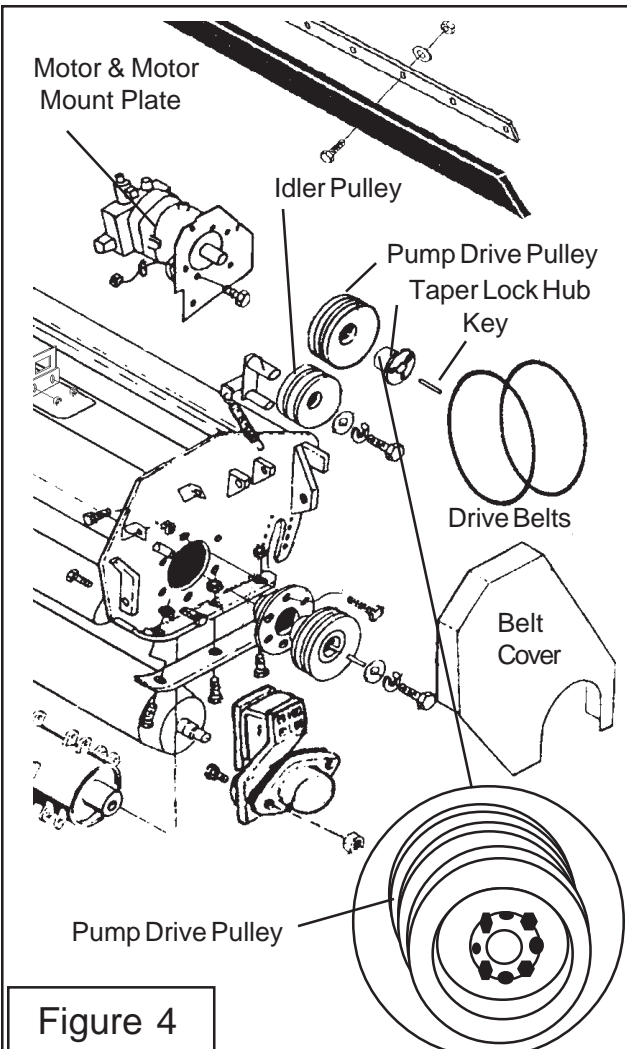

Figure 4
5. Remove Motor Drive Pulley on Wing Mower. The drive pulley is retained with a taper lock pulley. Remove the bolts and start them in the other holes in the hub. This will force the pulley inward off the tapered hub. Hub should pull off the pump shaft. (See Figure 4)
9. Reinstall Motor Mount Plate. The motor mount plate bolts to the motor flange. Motor mount plate bolts to deck of mower. The mount plate will not require any adjustment as it bolts to deck in predetermined holes. (See Figure 4)
11. Install Drive Belts. Drive belts should be a matched set of belts. Check to make certain belts are in serviceable condition. The drivebelts install over the top drive pulley and then idler pulley, this will leave the belts hanging. Using a bar to pry the idler pulley back, slip the belts over the cutter shaft pulley. Release pressure on the idler pulley, Belt tension is self adjusting through the idler pulley spring. (See Figure 4)